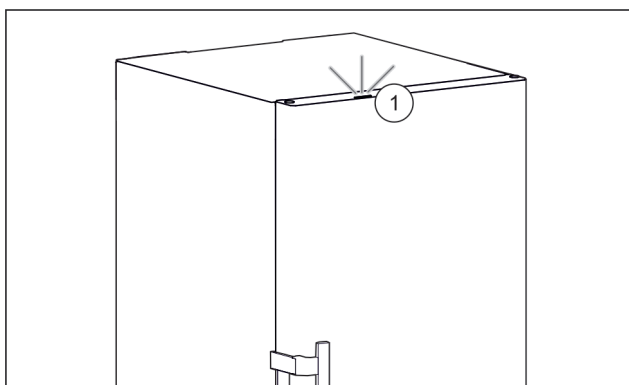

Fig. 90 Active status light when the door is closed
- Status light Fig. 90 (1) is activated.